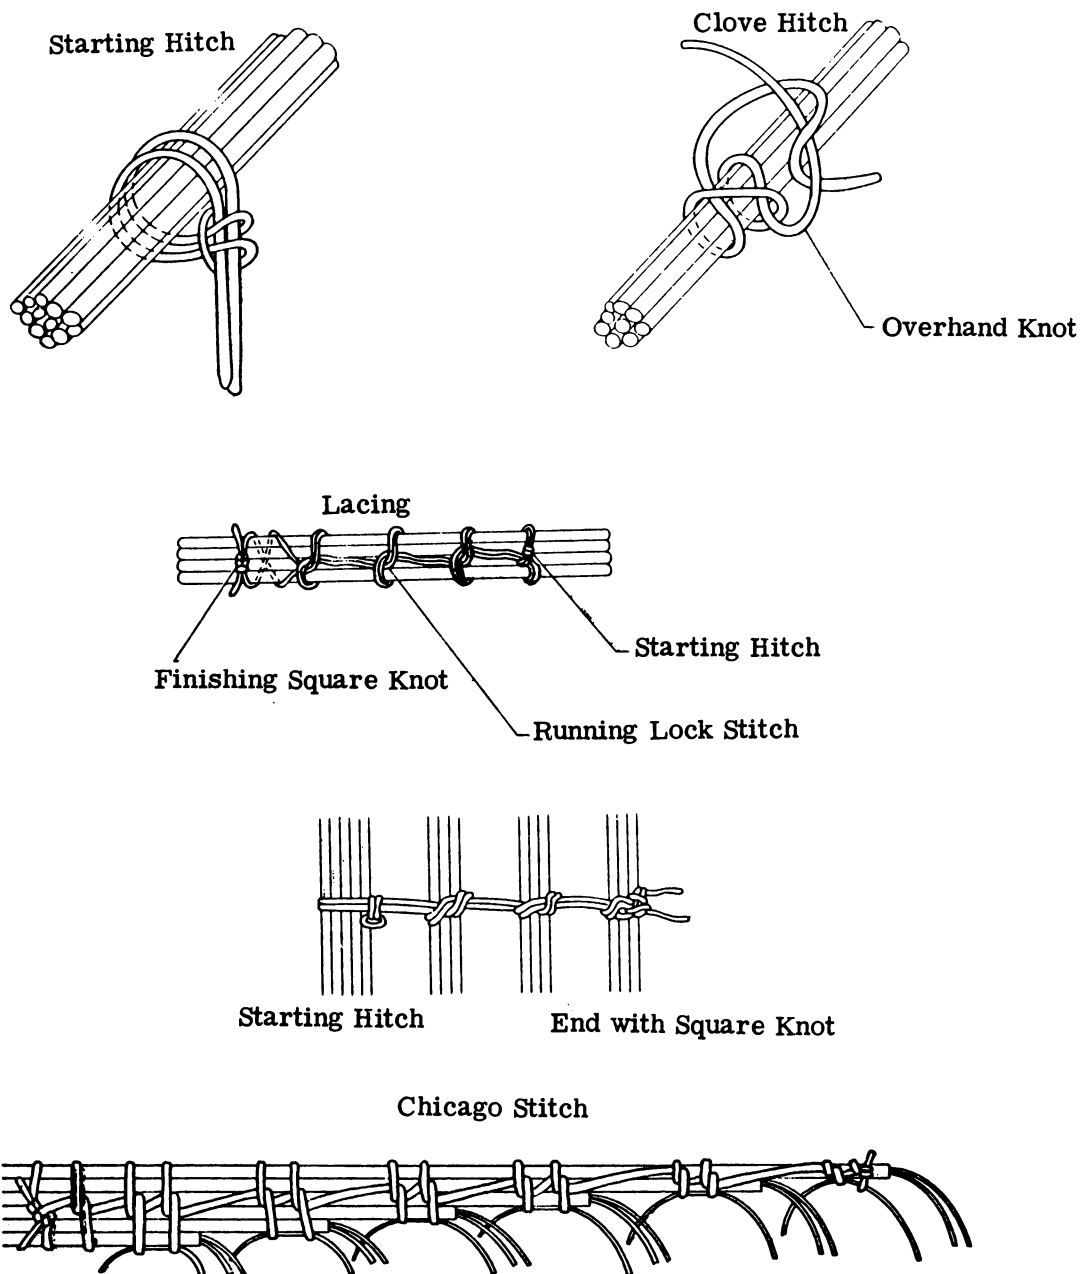

Figure 4-2. Lacing Stitches and Knots
b. Spot Ties: Spot ties shall employ a clove hitch with an overhand knot, as illustrated in Figure 4-2.
c. Procedure for Lacing: Cables 1/2 inch and smaller shall use a single cord single-running lock stitch. These cables shall use a starting hitch, as shown in Figure 4-2 and a finishing hitch, as shown in Figure 4-1C.
d. Cables: Cables over 1/2 inch shall use a double cord, single-running lock stitch. These cables shall have a starting and a finishing hitch, as shown in Figure 4-2.